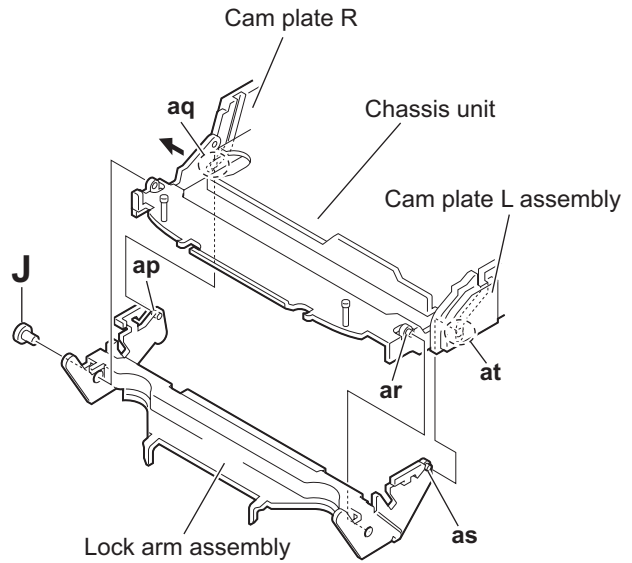

Fig.19
### 3.2.13 Removing the loading roller assembly (See Figs.19 to 21)
- (1) From the left side of the chassis unit, remove the screw **J** attaching the lock arm assembly. (See Fig.19.)
- (2) Remove the projection **ap** of the lock arm assembly from the joint **aq** while opening the cam plate R in the direction of the arrow. (See Fig.19.)
- (3) Remove the lock arm assembly from the projection **ar** of the chassis unit. (See Fig.19.)
- (4) Remove the projection **as** of the lock arm assembly from the joint **at** of the cam plate L assembly. (See Fig.19.)